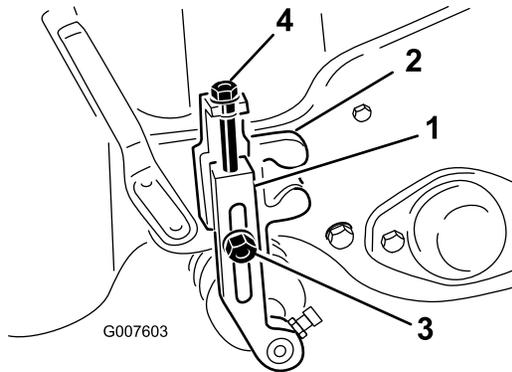

**Figure 46**
12. Test the cutting performance by inserting a long strip of cutting performance paper between the reel and bedknife, perpendicular to the bedknife (Figure 46). Slowly rotate the reel forward; it should cut paper.